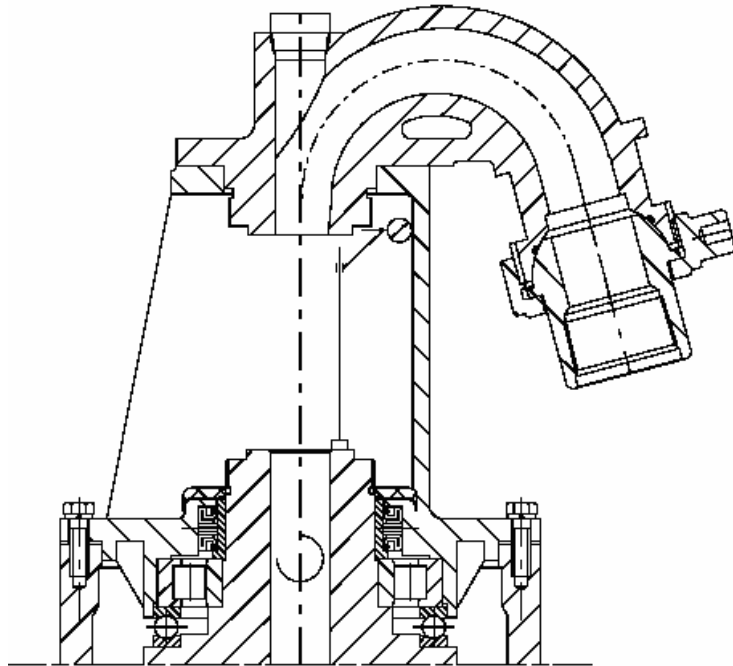

Fig.4 Inspection and Adjustment for Assembly
3.1 Inspect upper cover hole as per Fig. 4. Radial run out should not be over 0.20mm.